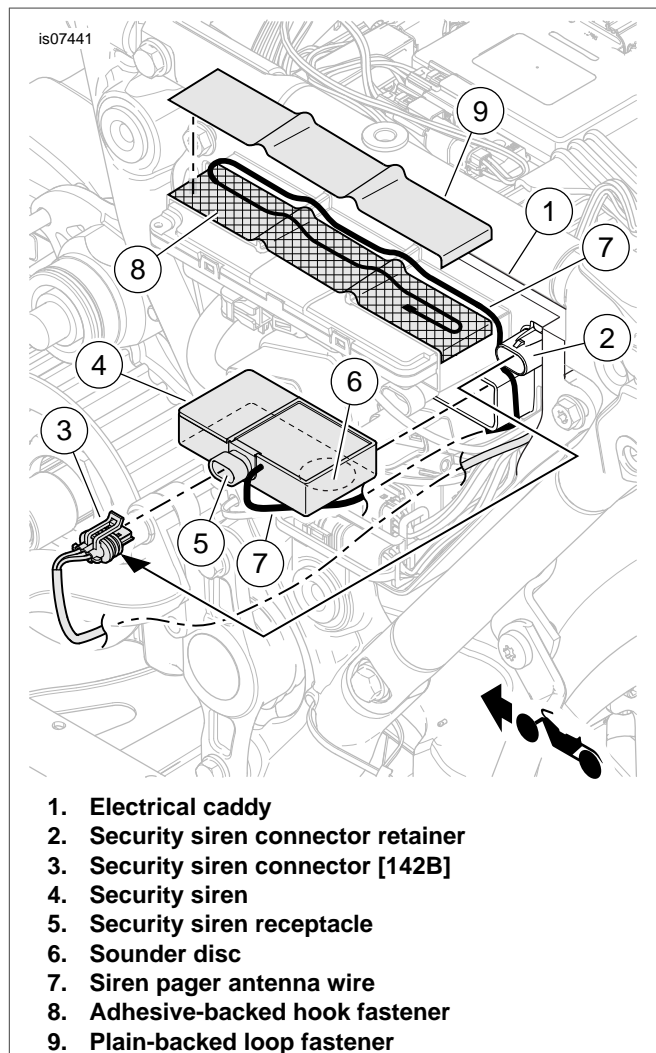

Figure 17. Siren Installation (2014-Later FL Touring Models)
2. See Figure 17. Remove the security siren connector [142B] (3) from the retainer (2) on the electrical caddy (1).